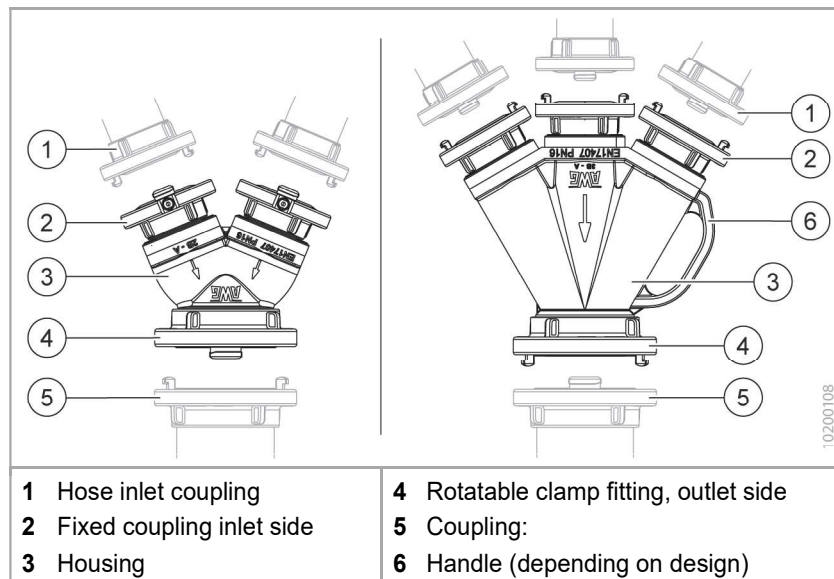

Fig. 2 Handling
The text contains a reference to an illustration with the item number in brackets: (Fig. 2/4) refers to Item 4 in Figure 2.
1. Connect the coupling of the inlet side hose (Fig. 2/1) to the couplings on the corresponding inlet side (Fig. 2/2) of the Siamese coupling by hand or using a coupling spanner.
2. Connect the coupling on the outlet side (Fig. 2/4) of the Siamese coupling to the coupling (Fig. 2/5) by hand or with a coupling wrench.